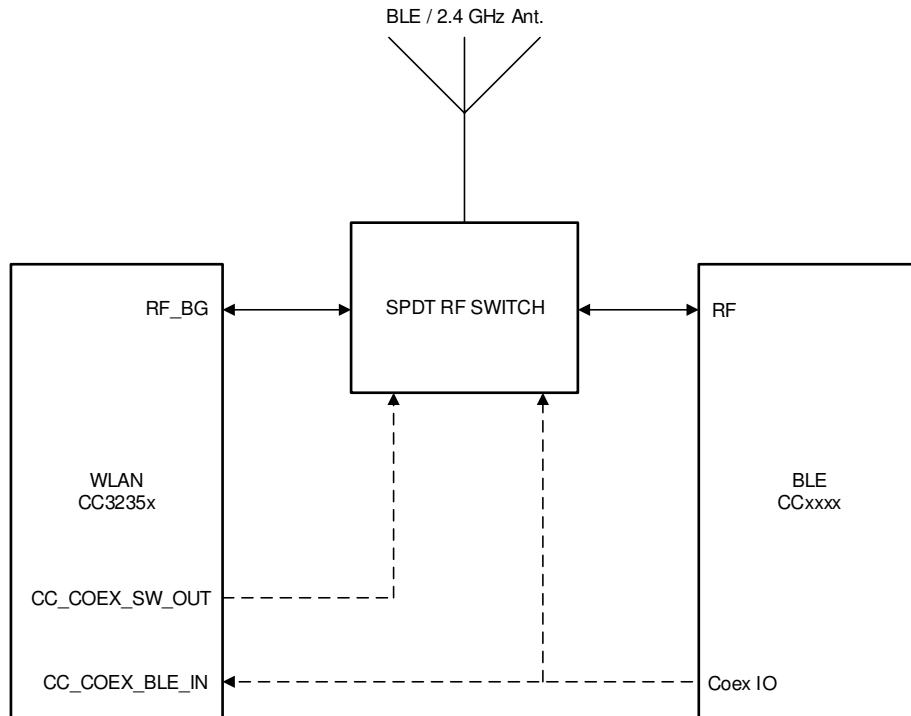

図 9-1. 2.4GHz, Single-Antenna Coexistence Mode Block Diagram
- 2.4GHz Wi-Fi band (see 図 9-1)